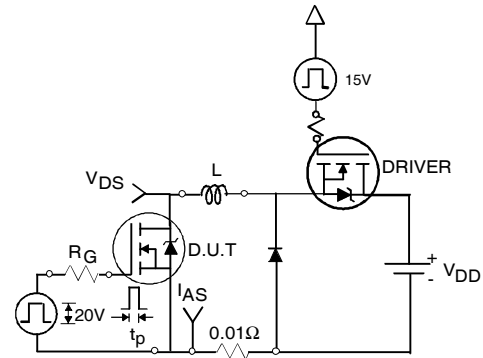

Fig 16c. Unclamped Inductive Test Circuit
- ⑤ $I_{SD} \leq 2.0A, di/dt \leq 155A/\mu s, V_{DD} \leq V_{(BR)DSS}, T_J \leq 175^\circ\text{C}$
- ⑥ Limited by T_{Jmax} , see Fig.16c, 16d, 19, 20 for typical repetitive avalanche performance.